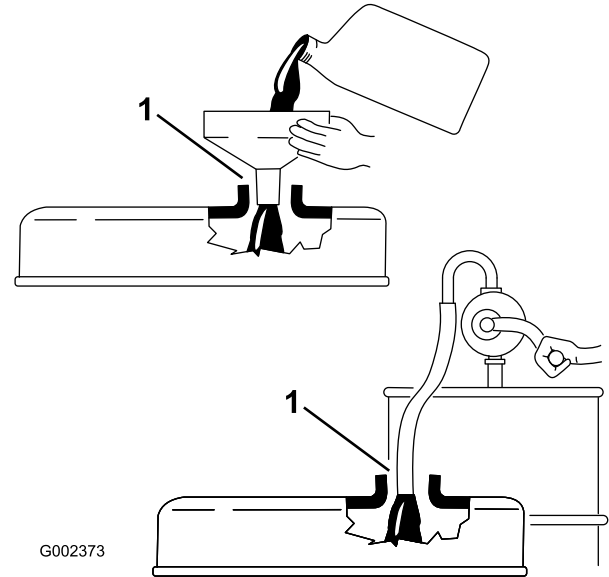

Figure 28
**Important:** Make sure that the dipstick is removed while filling the engine with oil. When adding engine oil or filling oil, there *must be* clearance between the oil fill device and the oil fill hole in the valve cover as shown in Figure 28. This clearance is necessary to permit venting when filling, which prevents oil from overrunning into breather.